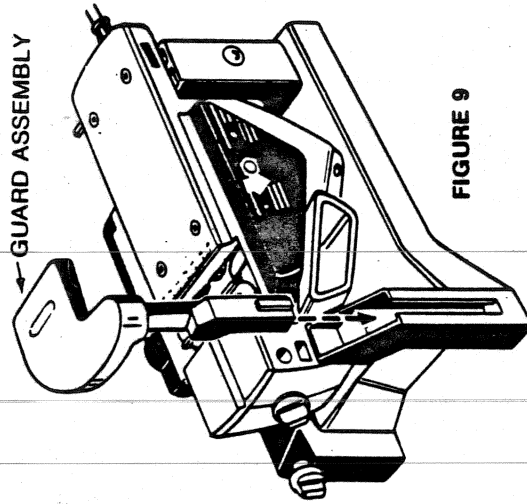

FIGURE 9
6. Insert the Guard Assembly as shown in figure 9. Push the Guard Assembly down until it snaps into place.